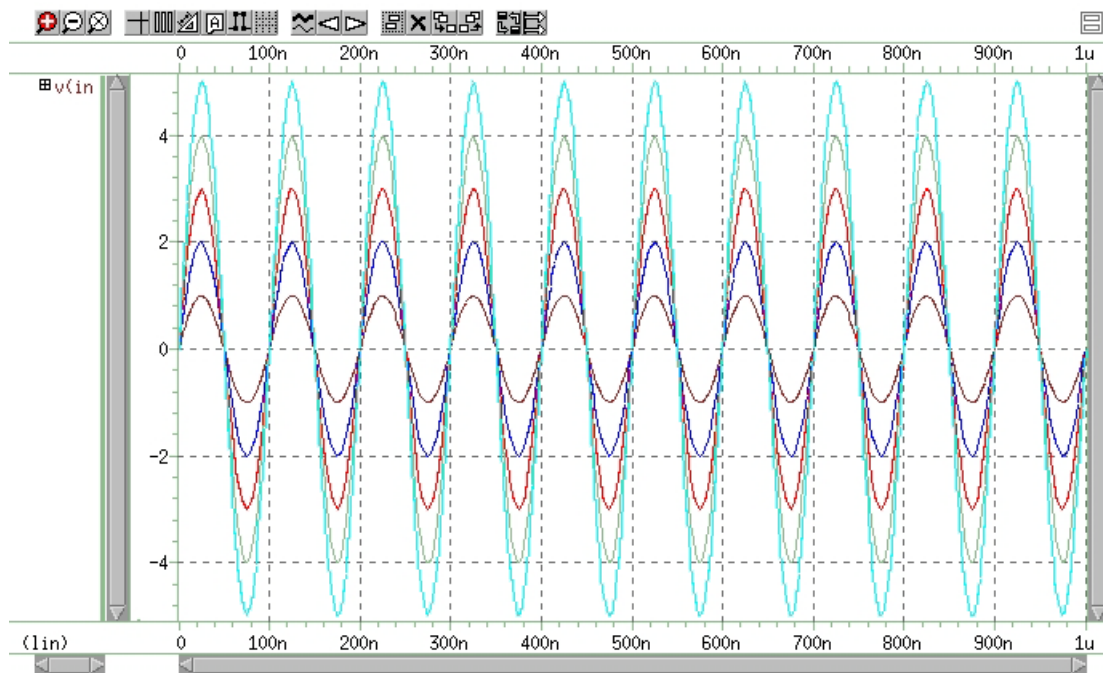

Figure 199 Plot of Voltage on Node in
5. Left-click on the signal $v(in)$, then drag and drop the selected signal into the WaveView panel to display a plot similar to the one shown in Figure 199 on page 1056.